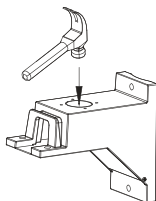

Fig. 43
1. Use hammer to hit the reserved photocell hole on the bracket or fixture as shown in Fig.43.